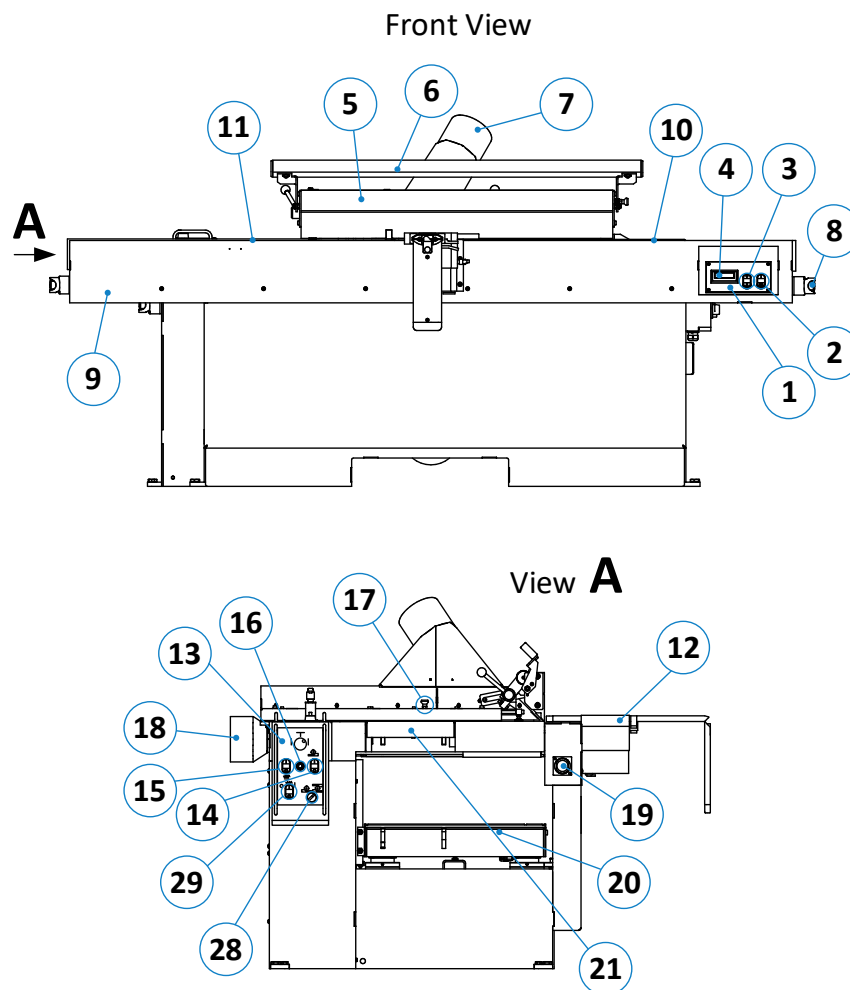

Figure 24: Components & controls (front view)
This section shows a detailed view of the control panel (13) for the planer & jointer shown in ⇨ Figure 24. This large view provides a better illustration of the respective operating elements.
This section shows a detailed view of the thicknesser control panel (1) shown in ⇨ Figure 24 (on the right for the standard version and on the left for optional equipment). This large view provides a better illustration of the respective operating elements.